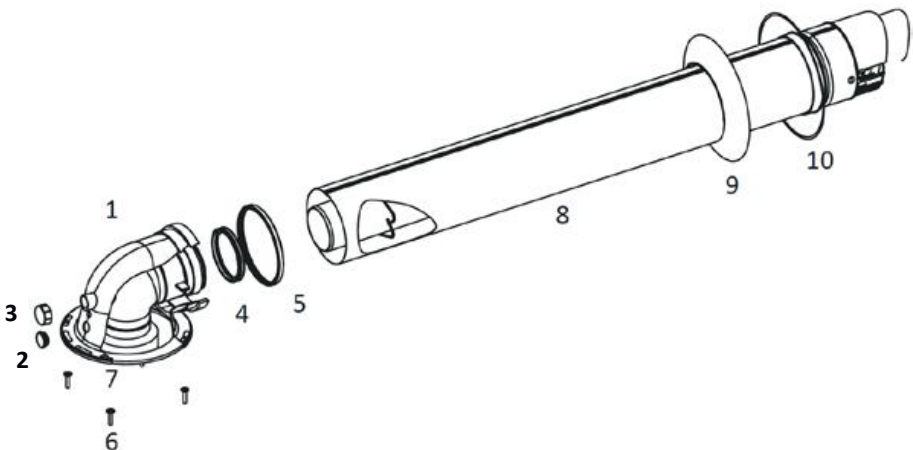

Figure 5
- The hermetic flue set is delivered in a carton box separate from the unit. The standard hermetic flue set ($\varnothing 60/100$ or $\varnothing 80/125$) consists of the following components (Figure 5).